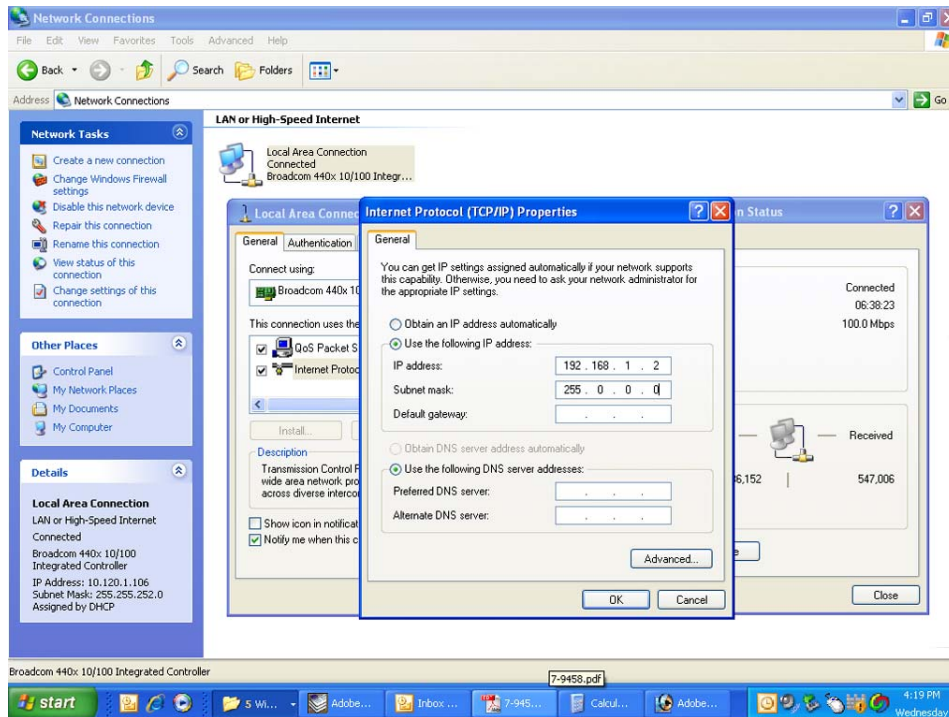

Figure B7: Enter the new IP Address and Subnet Mask values.
- 8) Enter the new IP address and subnet mask values as shown in **Figure B7**. To interface your computer to the Power Monitor use an IP address of “192.168.1.2” and a subnet mask of “255.255.255.0”.